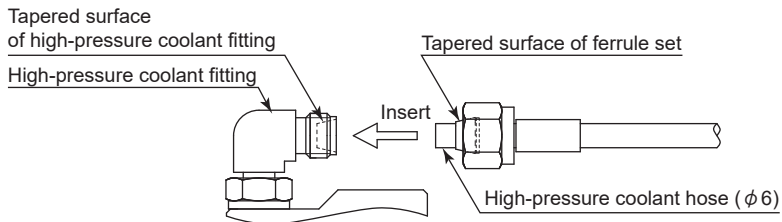

Fig. 15
- (1) Insert the high-pressure coolant hose (diameter $\phi 6$ mm) so that the tapered surface of the ferrule set fastened to the high-pressure coolant hose (diameter $\phi 6$ mm) fits tightly against the tapered surface of the high-pressure coolant fitting. (Fig. 15)